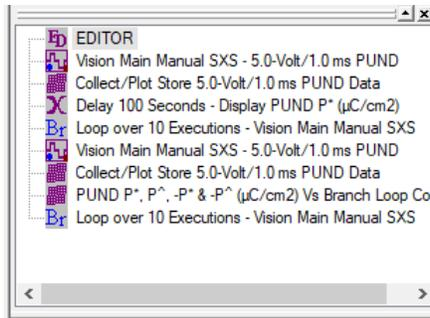

Figure 6 - Update Test Definition Moved to Editor Without Clearing the Editor.
Step 6: Clear the Test Definition from the Editor window. The Test Definition in the *Editor List* is now ready to return to the Editor window. The action could be initiated immediately. However, the Tasks in the *Editor List* control would be appended to the Tasks already in the Editor window (**Figure 6**). Before initiating the *Editor List* move to the Editor, clear the Editor by clicking *Clear Editor*.